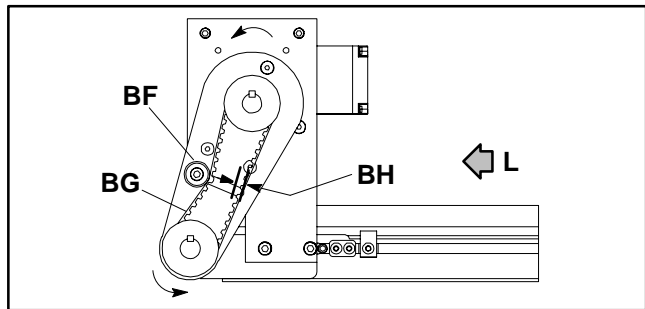
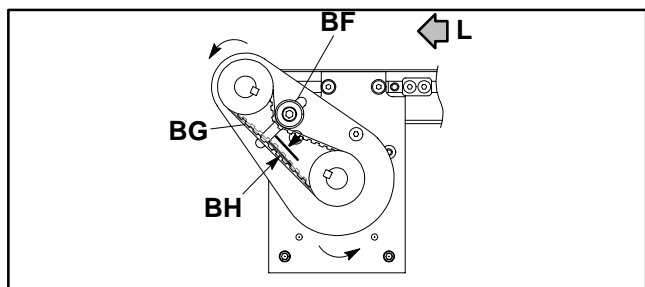

Figure 34: Top Mount Package
Figure 36: Bottom Mount Package
The following information applies to both top (Figures 34 & 35) mounting and bottom mounting (Figures 36 & 37) packages. The position of the tensioning bearing assembly (BF) with respect to the timing belt (BG) is dictated by the direction of conveyor belt travel (L).